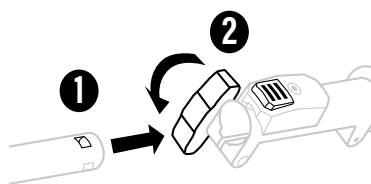

Fig. 2B
4. Align the installation hole on the hedge trimmer attachment shaft with the arrow on the powerhead shaft and push the hedge trimmer attachment shaft into the powerhead shaft until you hear a "click" sound, which means that the hedge trimmer attachment shaft is mounted into place. (Fig. 2B, 1)
6. Tighten the wing knob firmly. (Fig. 2B, 2)